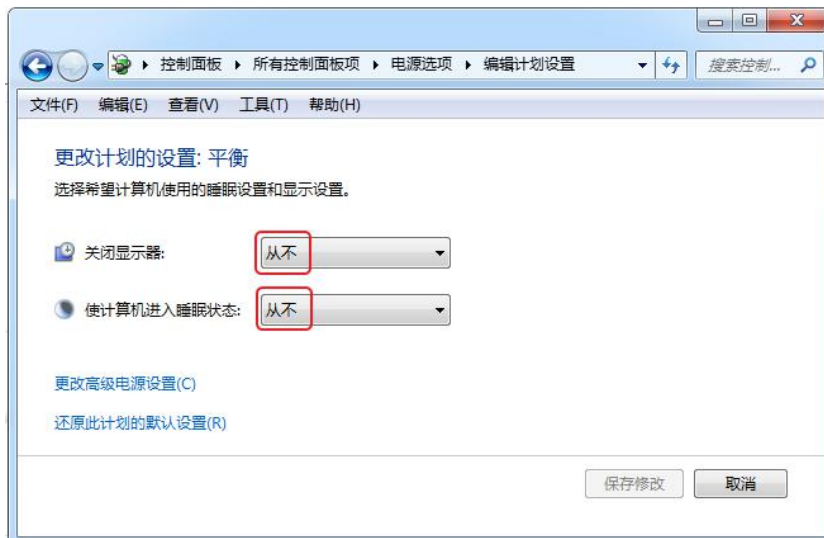

Figure 1.1 Choose installation language
1. Set to disable standby. Right-click on the computer desktop and select **Personalization> Screen Saver> Change Power Settings> Change Computer Sleep Time** and change it to "Never", as shown in Figure 1.1.